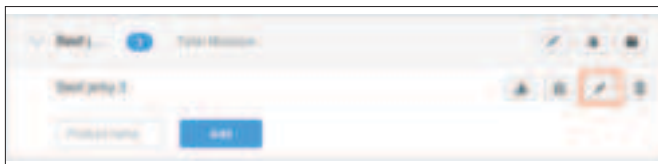

Figure 20 Product group
- Select the Product group containing the product to be offset (Figure 20).
- Click the edit icon next to the product to be offset (Figure 20).